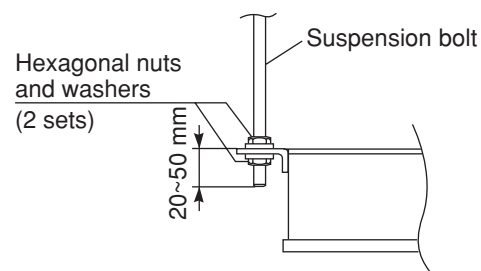

Fig. 3-117
- (3) Suspend and fix the indoor unit using the 2 hexagonal nuts (field supply) and special washers (supplied with the unit) as shown in Fig. 3-117.